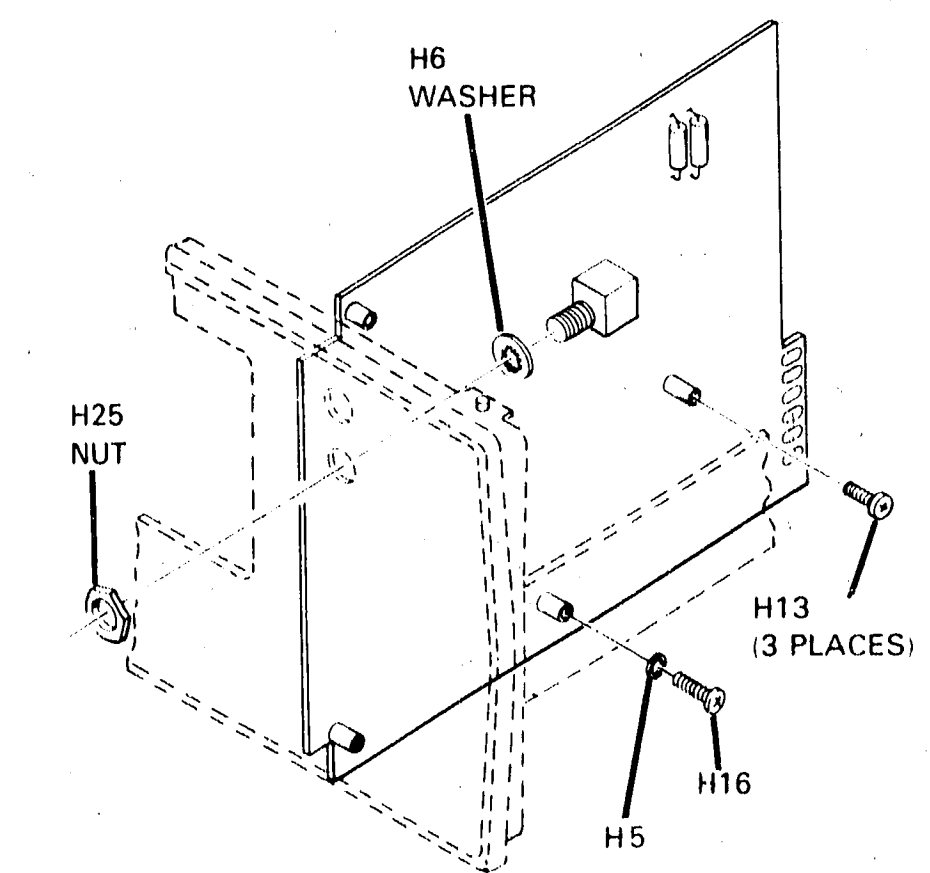

Figure 8-27. Location of A7 Attaching Screws
f. Disconnect wires (1), (6), (93) and (97) from back of assembly A7 (square-pin connections).
g. Disconnect wires (7), (8), (90), and (91) from component side of assembly A7.
j. Remove four screws holding assembly A7 to sheet metal (see figure 8-27).